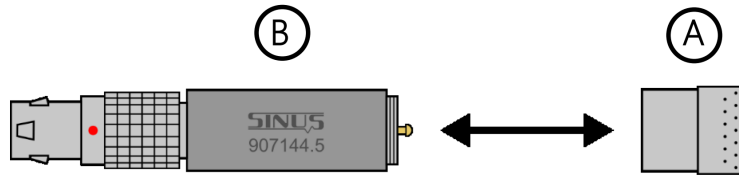

Figure 3.3: Pre-amplifier and capsule
First disconnect the microphone from Tango_Plus and carefully unscrew the **Microphone Capsule (A)** from the **Microphone Preamplifier (B)** (figure 3.3). Be careful not to release the protective grille from the capsule, but to unscrew the entire capsule unit.